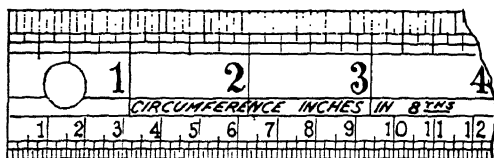

Fig. 2. Circumference rule
Another common rule for the metal shop is the 36-in. circumference rule. It has special graduations for determining the dimensions of circles, and also special tables for the sheet-metal worker. For example, in Figure 2 the top graduations show the diameter of circles, and the bottom graduations that line up with them give the corresponding circumferences. Thus the circumference of a 2-in. circle is about  $6\frac{1}{4}$  in. Useful tables of dimensions for metal containers are found on the other side of the circumference rule.
3. What is the circumference of a 3-in. circle? Read from Figure 2.